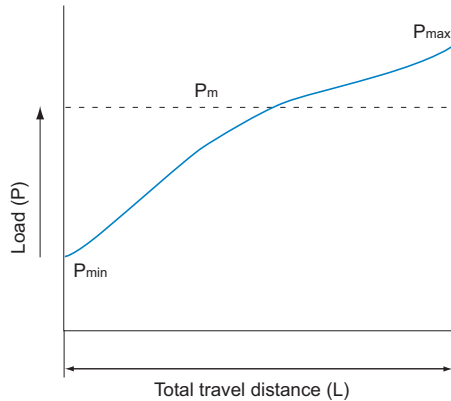

Fig.3
As this load is monotonically varying as shown in the Fig.3 on **B3-24**, calculate the average load using the equation (15) on **B3-24**.